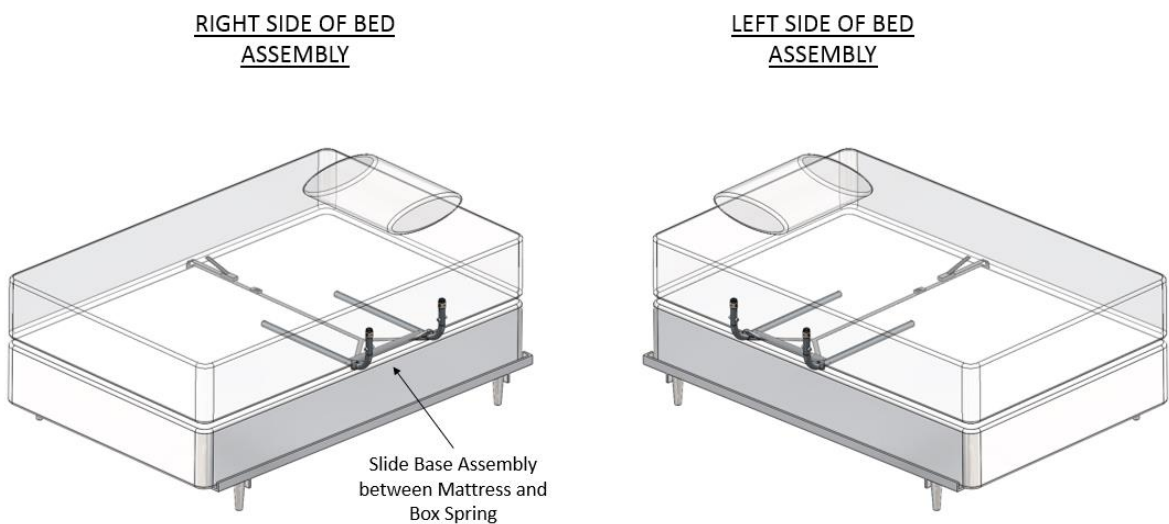

FIGURE 4
4. Determine which side of bed to install the Bed Rail. Slide the Assembled Base between the Mattress and Box Spring of the bed, as shown in Figure 4.